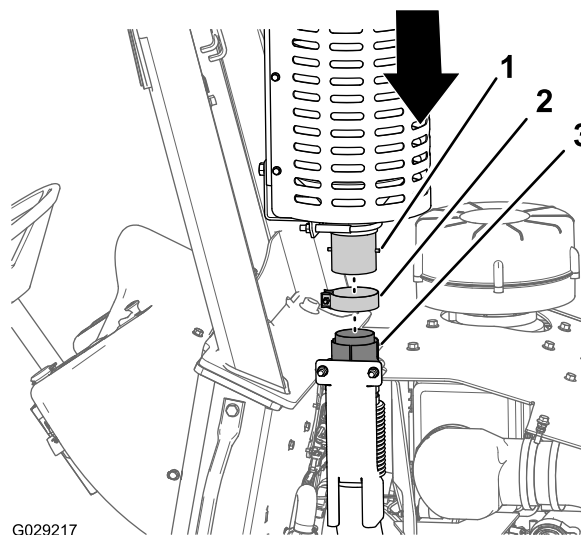
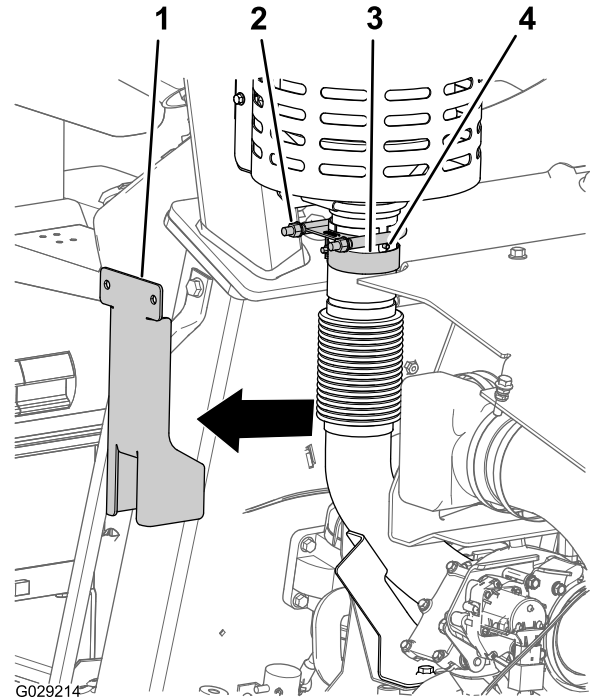

Figure 16
Figure 18
2. Align the inlet pipe of the muffler with the turbocharger-exhaust pipe (Figure 16).
3. Insert the inlet pipe into the exhaust pipe into the inlet pipe is fully seated (Figure 16)
- Remove the 2 flange-head bolts that secure the guillotine clamp, bellows-alignment jig, and turbocharger-exhaust pipe, and remove the jig (Figure 18).
- Assemble the band clamp just below the alignment pin of the muffler inlet pipe (Figure 16 and Figure 18).
- Assemble the guillotine clamp between the alignment pin and the end of the turbocharger-exhaust pipe (Figure 18).